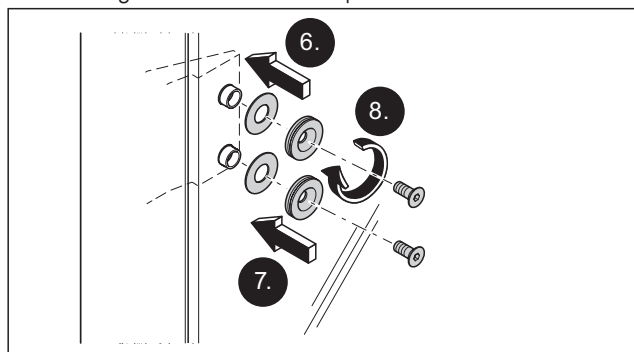

Fig. 53 Fix the glass door from the opposite side to the hinge to the door hinges
6. Attach the gaskets to the glass (Fig. 53).